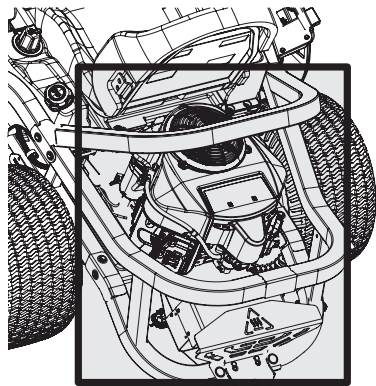

Fig. 25
- Keep both sides of transmission cooling slots, exhaust manifold, around fuses, all wiring and harnesses, muffler pipe, muffler shield, engine intake screens and cooling fins, etc. clear of grass clippings and leaves (Fig. 25).